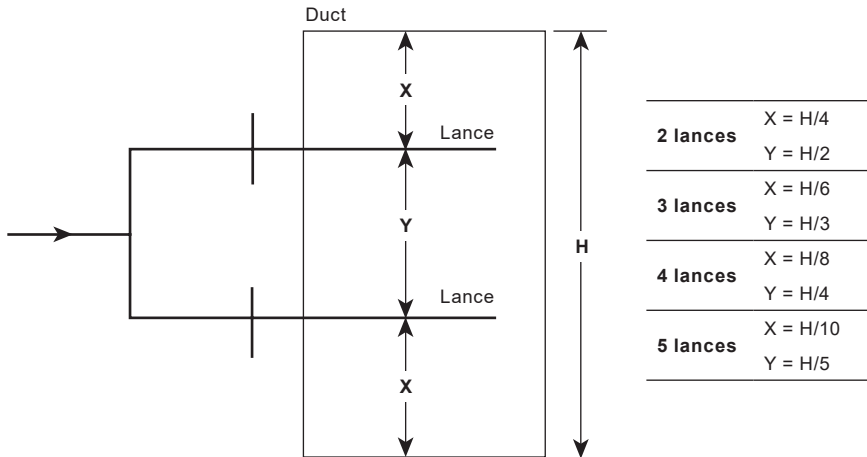
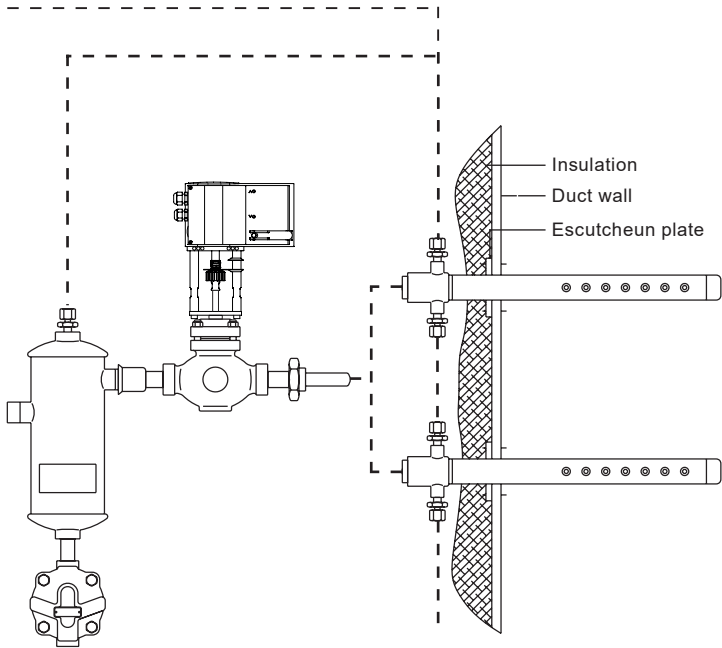

Fig. 3
Fig. 5
- 3.2.6 On multi-lance systems, the lances should be assembled such that there is an even distribution of steam over the duct, as shown in Figure 3, page 10. Particular attention should be paid to the position of the main steam supply to the interconnecting pipework - see Figures 5, 11, 12 and 13.
- 3.3.3 To assist in ensuring that there are no problems with steam condensing in the duct and to obtain minimum absorption distance, the lance(s) should be positioned as shown in Figure 3, page 10.